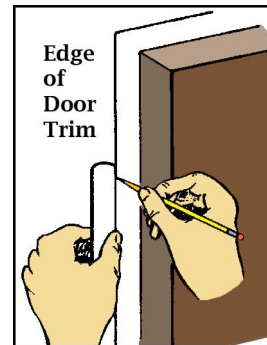

Figure 4
- **Step 6** Extend the fin lines the full length of the body tube, and extend the lug line up from the bottom of the tube to a distance of 6". Use the straight edge of a door trim as a guide, as shown in Fig. 4. Mark the six fin lines at locations 2.375", 8", and 9.5" from the bottom of the tube. Mark the lug line 3" and 5" from the bottom of the tube.